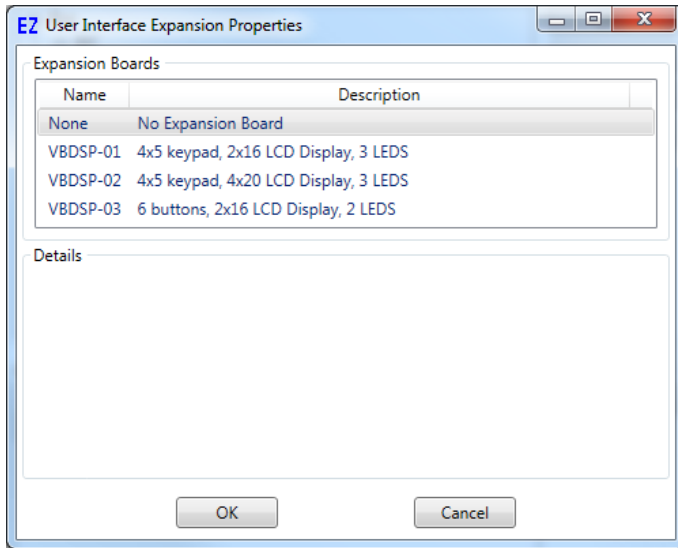

Figure 1-3 - User Interface Expansion Properties
3. Highlight the **User Interface Expansion** in the list and click the **PROPERTIES** button on the right side of the Expansion pane in the VB-2000 Properties Window. The User Interface Expansion Properties Window will open. Refer to Figure 1-3.
4. Select the appropriate VBDS-P-X model from the list of Expansion boards. Refer to Figure 1-3. When you select a model, the Details section of the window will update with the devices supported on the expander (for reference only) that will be installed in the project settings of the program.